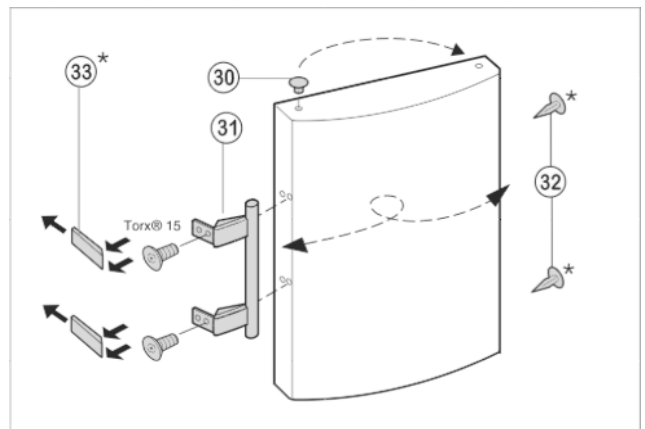

Fig. 9
- ▶ Lift the stopper Fig. 9 (30) out of the door bearing bush and transfer it.
- ▶ Detach door handle Fig. 9 (31), stoppers Fig. 9 (32) and pressure plates Fig. 9 (33) plates and transfer to the opposite side